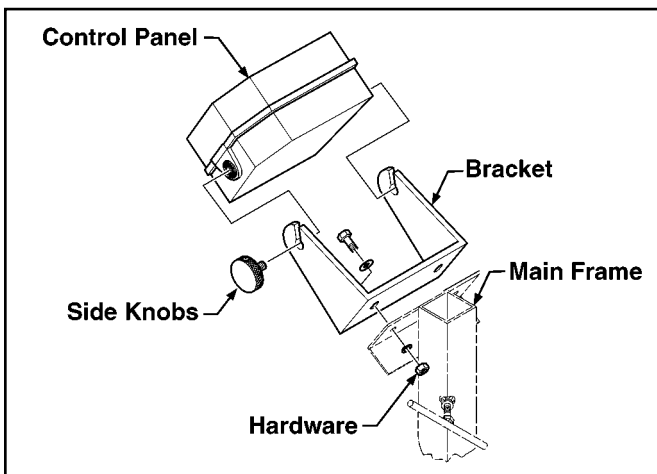

Figure 2-1 Control Panel Mounting
1. **Connect Power Cable** to battery power supply (**NOTE:** White wire is positive and black is negative). You will need to supply and install (2) crimp-on ends for the cable in order to securely attach to the battery posts. Place connector end of cable near the driver's seat for later connection to the Control Panel.
2. **Mount Control Panel Bracket** on the angle plate at the base of the Mast Pole. Use the bolts and nuts supplied. Install the Control Panel on the bracket using the side knobs to secure the unit. (Refer to Figure 2-1).